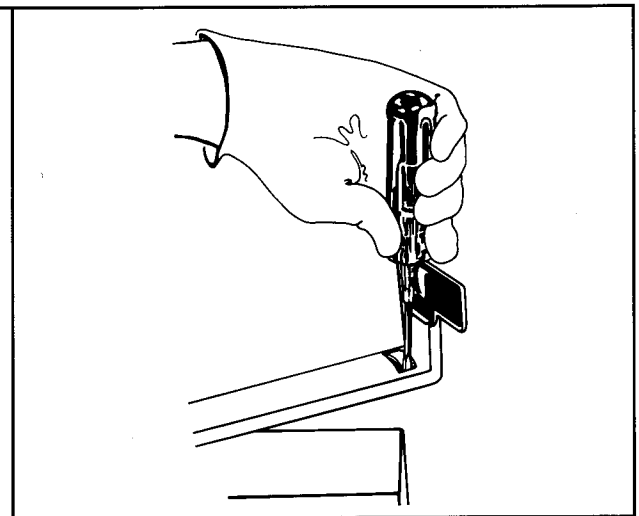

Figure 47
- e. Replace cover behind nameplate. See Figure 47.